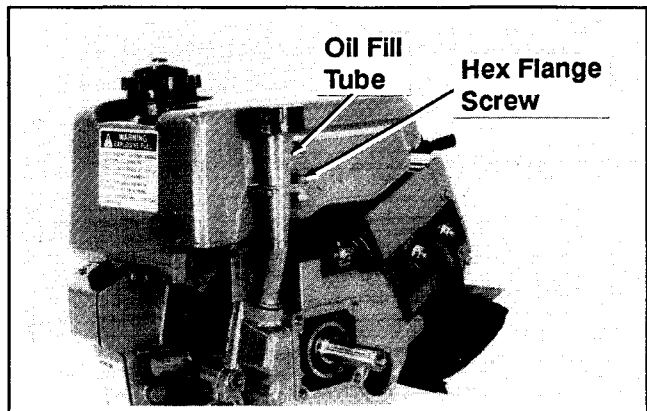

Figure 9-5. Removing Oil Fill Tube On CH5. (Earlier Tank Mounting Shown.)
- Remove the hex. flange screw and nut securing the oil fill tube to the fuel tank. See Figure 9-5.